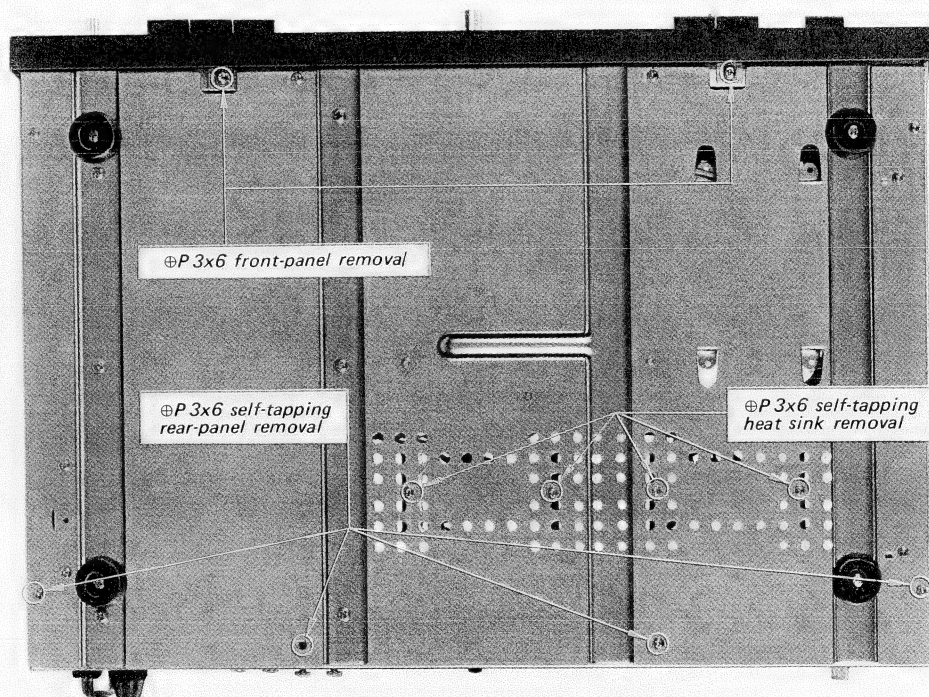

Fig. 2-4 Bottom view
5. Remove the two screws (\oplus P3x6) from the front bottom edge of the amplifier securing the front panel to the front subchassis, as shown in Fig. 2-4. This frees the front panel.
2. Remove the four self-tapping screws ($\oplus P 3 \times 6$) securing the rear panel to the bottom plate, as shown in Fig. 2-4. This frees the rear panel.
2. Remove the two self-tapping screws (\oplus P 3 \times 6) securing the heat sink to the bottom plate as shown in Fig. 2-4.